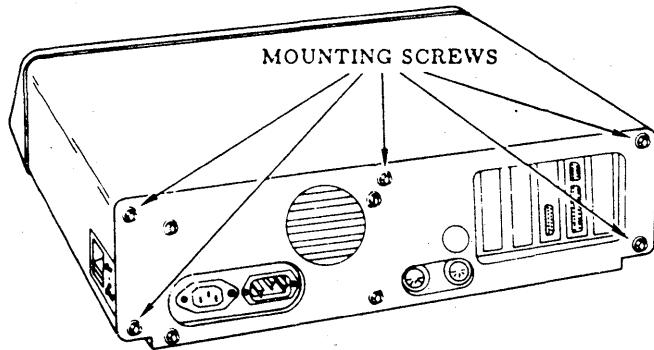

Figure 11: Cover Mounting Screws
2. Locate and remove the cover mounting screws as shown in Figure 11: